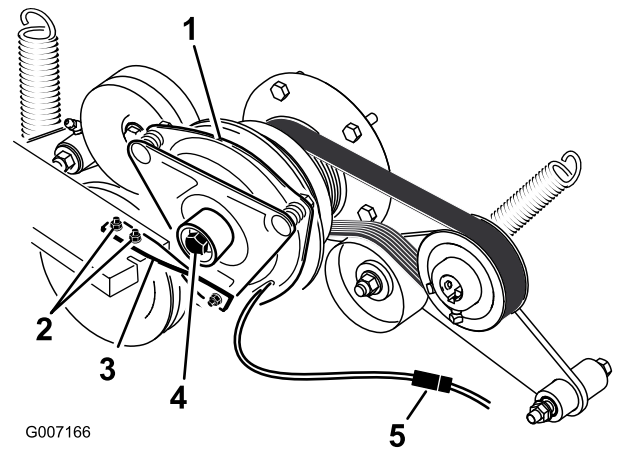

Figure 77
6. Unplug the electric connection for the clutch (Figure 77).
7. Remove the 2 bolts holding the rubber clutch strap to the mower frame (Figure 77).
8. Remove the center bolt holding the clutch to the engine shaft and remove the clutch and key (Figure 77).
15. While holding the crank shaft at the back of the machine, install the center bolt and torque it to 68 N·m (50 ft-lb) (Figure 77).
16. Install the rubber clutch strap to the mower frame with the 2 previously removed bolts and nuts (Figure 77).
18. Plug in the electric connection for the clutch (Figure 77).